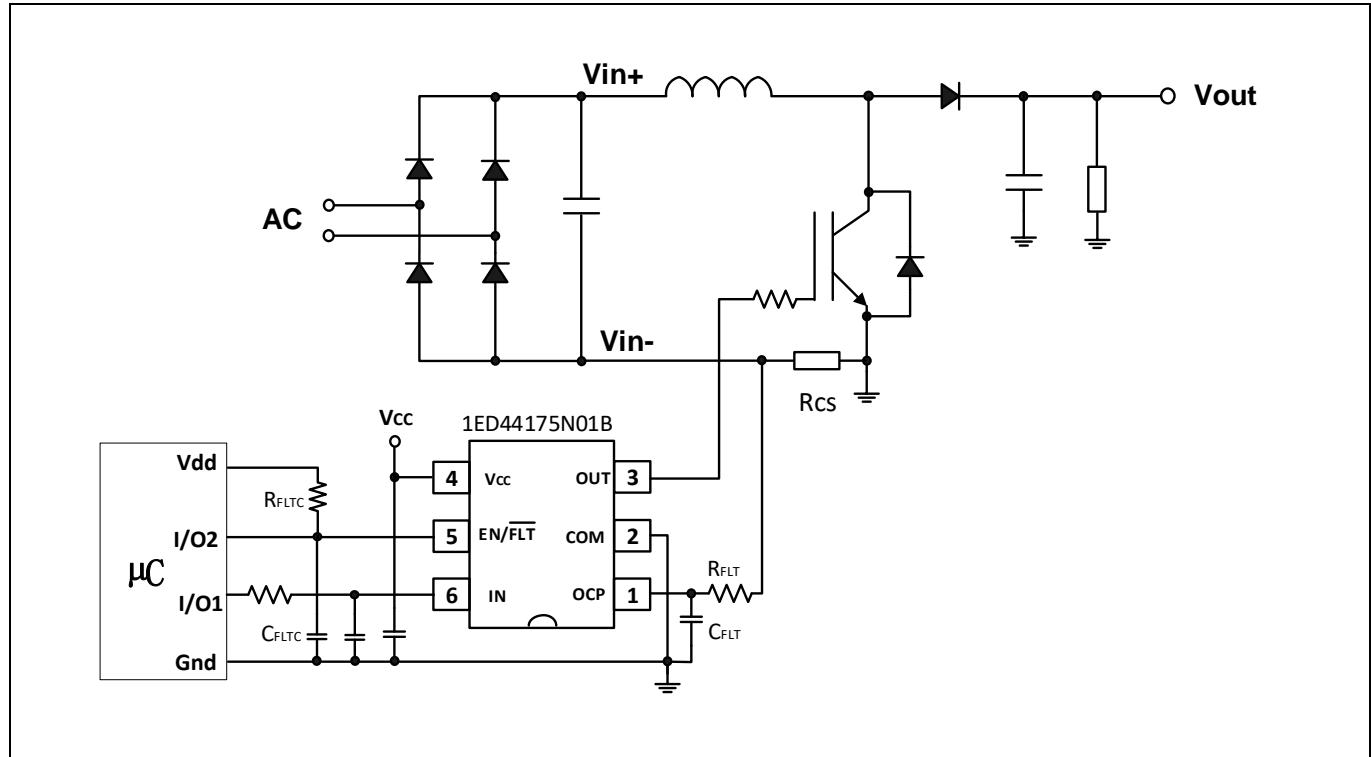
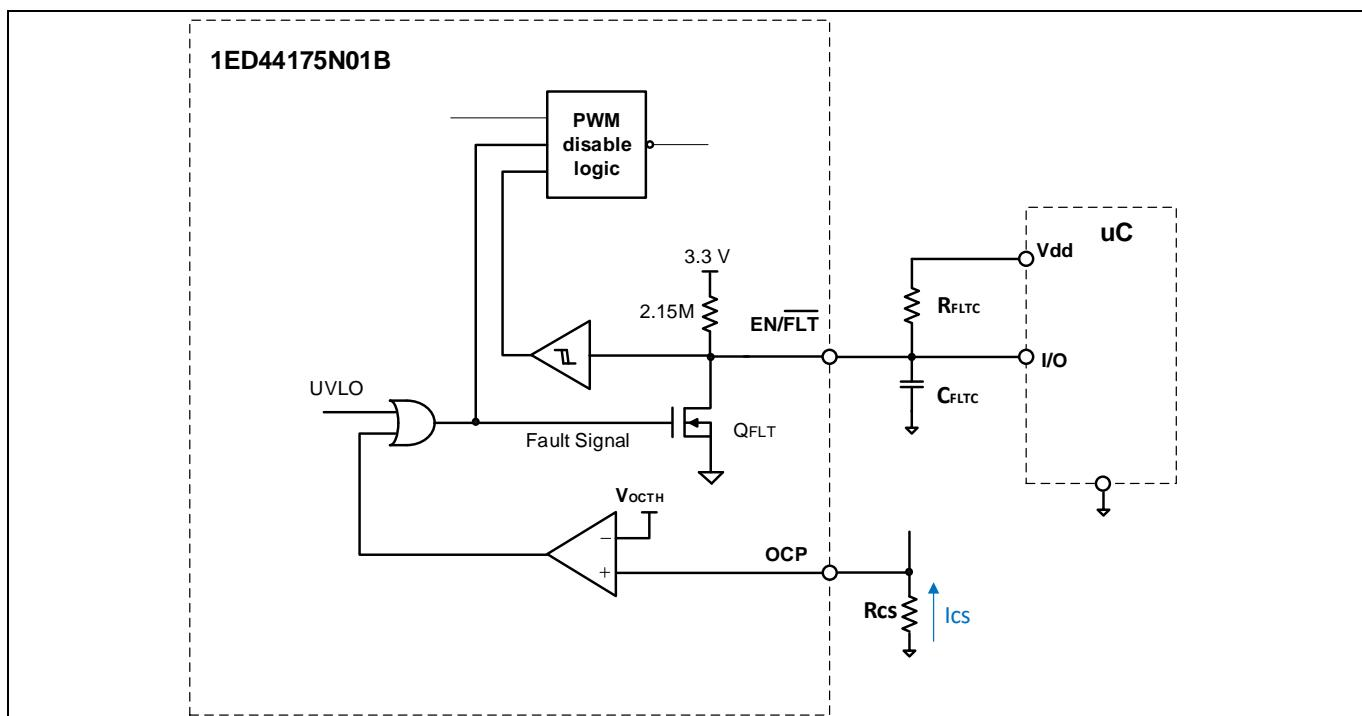

Figure 5 Application circuit example of active power factor correction (APFC) with R_{CS} for OCP
Figure 11 Diagram of the fault output circuit and fault clear time setup
- The R_{CS} should be connected between the pin of system ground and the input power return to detect short-circuit current (refer to Figure 5). An RC filter needs to be connected between the shunt resistor and the OCP pin if the internal blanking time is not sufficient to eliminate the noise.
Figure 5 shows a typical application circuit of 1ED44175N01B for the interface schematic with control signals connected directly to a XMC™ µC.
The length of the fault clear time period (t_{FLTC}) is determined by exponential charging characteristics of the capacitor where the time constant is set by R_{FLTC} and C_{FLTC} . Figure 11 and Figure 5 show that R_{FLTC} is connected between the external supply ($V_{dd} = 3.3$ V) and the EN/FLT pin, while C_{FLTC} is placed between the EN/FLT and COM pins. Actually the EN/FLT pin is pulled up to 3.3 V with a 2.15 MΩ pull-up resistor internally.